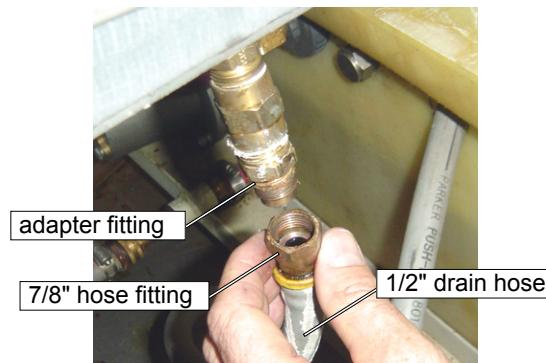

Figure 7-4
7. Remove drain hose beneath the ADO using the 7/8" open-end wrench (Figure 7-4)